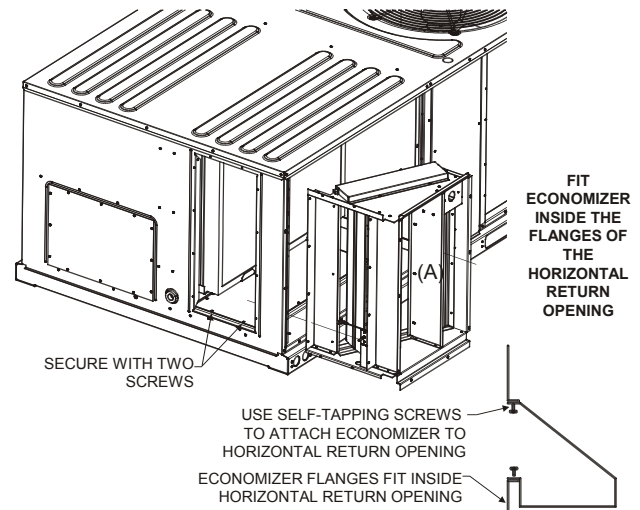

Figure 6
Slide the Economizer (A) over return opening and into horizontal duct opening as shown below. Secure Economizer at the top and bottom with self-tapping 10-16 x 1/2 screws provided with the economizer, as shown in **Figure 6**.